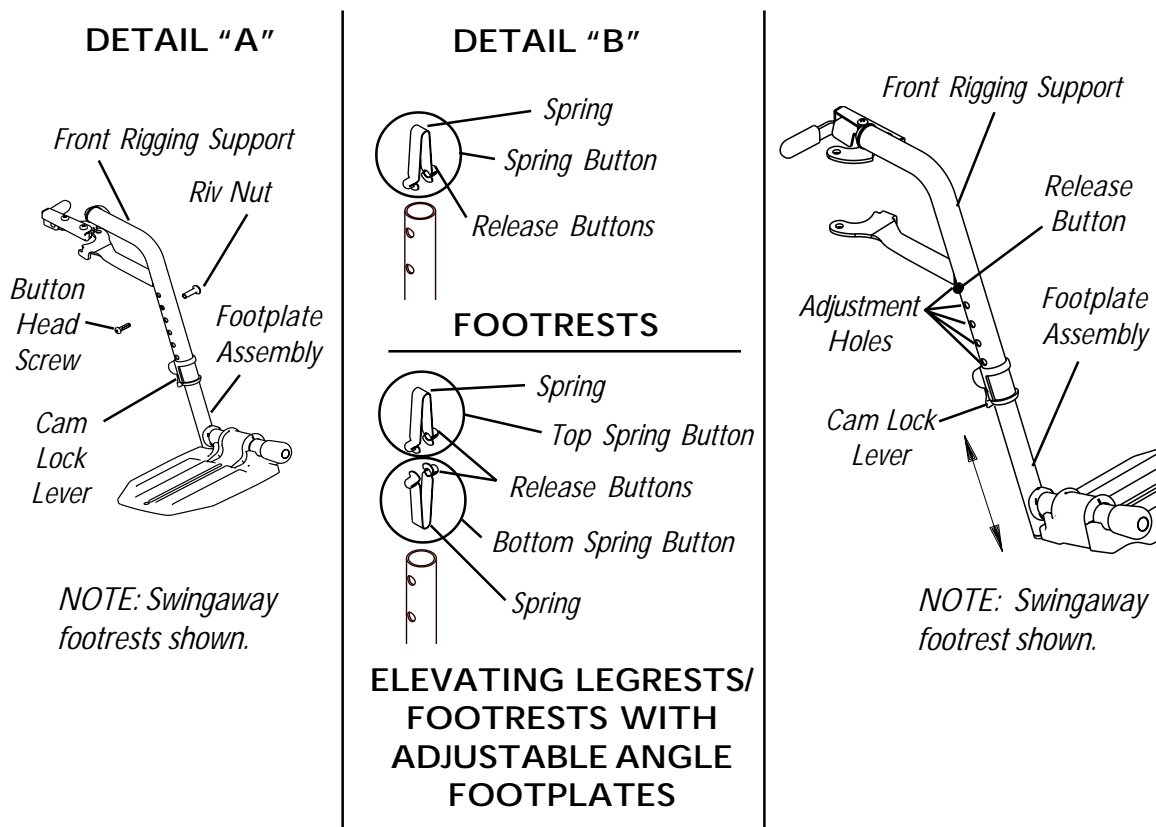

FIGURE 2 - INSTALLING THE SPRING BUTTON FOOTPLATE KIT
INSTALLING THE SPRING BUTTON FRONT RIGGING KIT (FIGURE 2)
3. Using a screw driver to hold the riv nut in position, remove the button head screw from the riv nut as shown in DETAIL "A" of FIGURE 2.
6. Perform one of the following as shown in DETAIL "B" OF FIGURE 2:
SPRING BUTTON HEIGHT ADJUSTMENT (FIGURE 2)